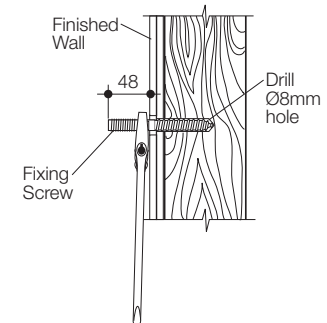

Figure 2
- 3- Insert Expansion Fastener into the drilled hole in masonry wall. The Fixing Screw should be screwed into the wall using the flat section of the Fixing Screw, with a spanner as shown in **Figure 2**. Allow 48 mm of thread to protrude from the finished wall.